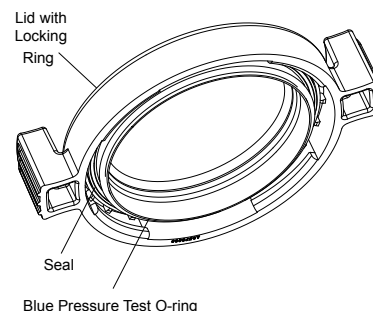

Figure 13. Blue Pressure Test O-ring
**IMPORTANT:** VSSHP220DV2A and VSSHP-270DV2A come with an additional disposable o-ring for pressure testing. This is the blue pressure test o-ring (See Figures 13 and 14). If you opened the pump lid before conducting the pressure test, the blue o-ring may fall out. If the blue o-ring falls out, it must be re-installed on the lid before beginning the pressure test (See 3.6.2).